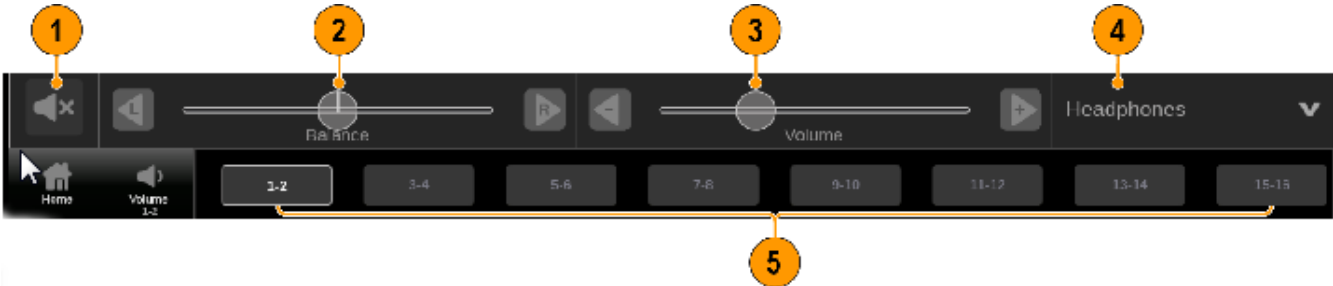

Figure 82: Mute, balance, volume, device, and source control
1. Select the volume icon. (See Figure 82.)